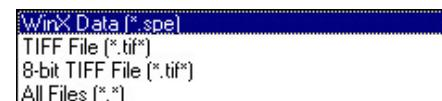

Figure 55. Save As Data Types
**Save as type:** Indicates the file type. The data types currently supported are listed in Figure 55. If All Files (\*.\*) is selected, you will be able to save the file with any extension.